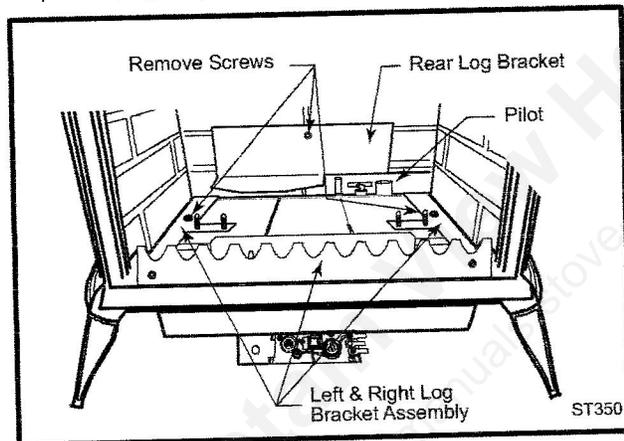

Fig. 49 Remove rear log bracket and left and right log bracket assembly.
5. Remove the rear log bracket by unfastening the screw. (Fig. 49)
6. Remove the right and left log bracket assembly by unfastening the two screws which hold the burner in place. (Fig. 49)
14. Locate pilot. (Fig. 49)